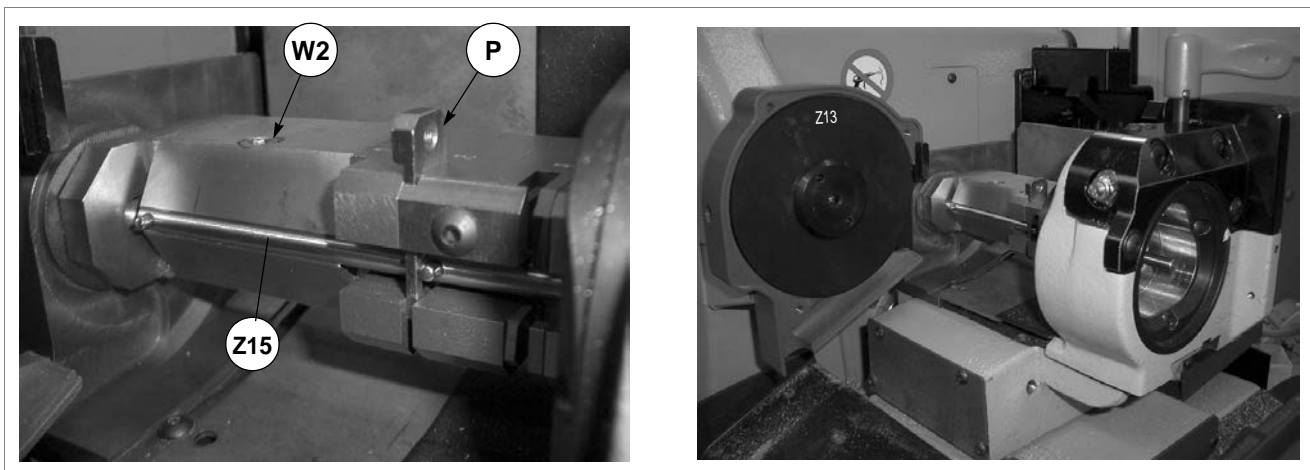

Fig. 63
Template Z13 = fit in place of the cutter (fig. 63).
Template Z15 = fit on the S1-K2 clamp as if it were a key (fig. 63). Use the plate (P) as a point of reference in position 2 with the second pin on the template up against it. Tighten the screw (W2) with the (T4) wrench. Replace the (T4) wrench in its seat.